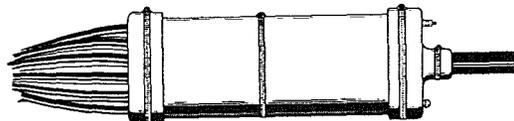

Figure 14. Enclosed Splice
4.27 Slide the single opening end cap over the opposite end of the sleeve and secure it to the sleeve with a sealing clamp. The assembled splice closure is shown in Figure 14.